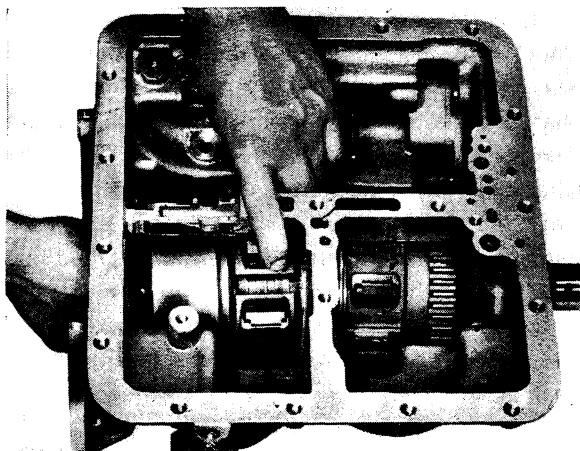

Fig. 4-82. Withdrawing rear clutch and forward sun gear group
27. Withdraw the rear clutch assembly together with the forward sun gear shaft, see Fig. 4-82.